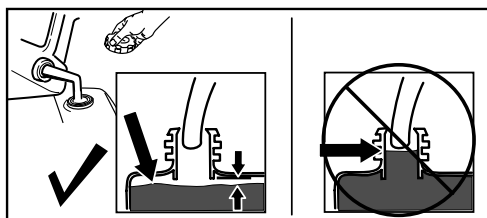

Figure 13
Do not fill above the bottom of the fuel tank neck (Figure 13).
- Remove an obstruction from the discharge chute; refer to Clearing a Clogged Discharge Chute \(page 14\). Use the snow-cleanout tool (Figure 13), not your hands, to remove an obstruction from the discharge chute.